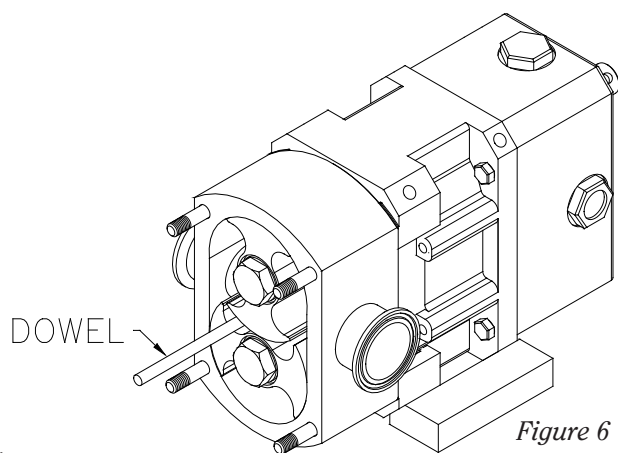

Figure 6
- d) To remove the rotors, first loosen the first rotor, place the dowel between the rotors to prevent rotation as shown in *Figure 6*.